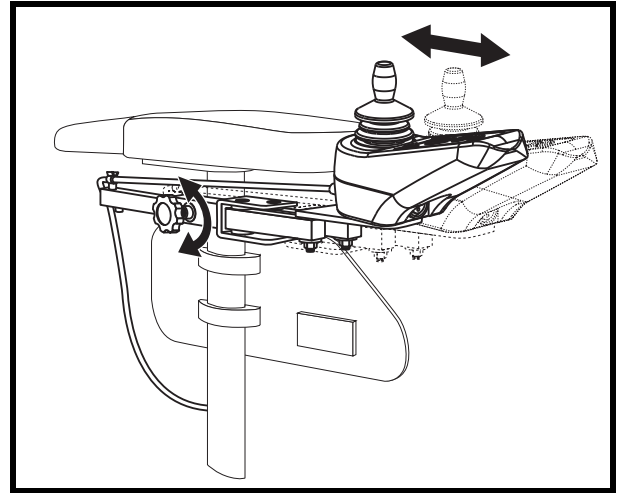

Figure 18. Controller Position
4. Loosen the adjustment knob on the armrest where the controller is currently located. See figure 18.